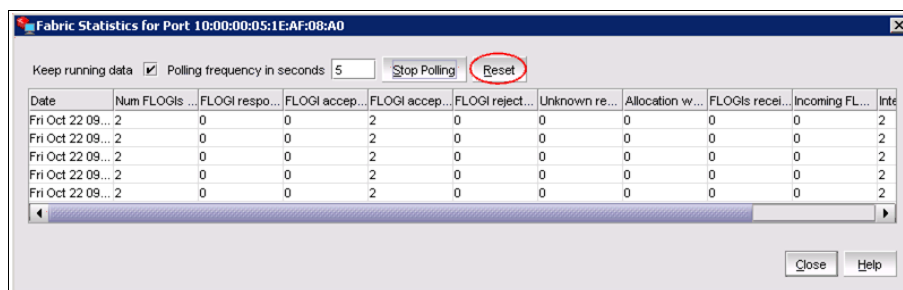

Figure 10-51 Reset the statistics
1. Click the **Reset** button on any of the Statistics dialog boxes (Figure 10-51).